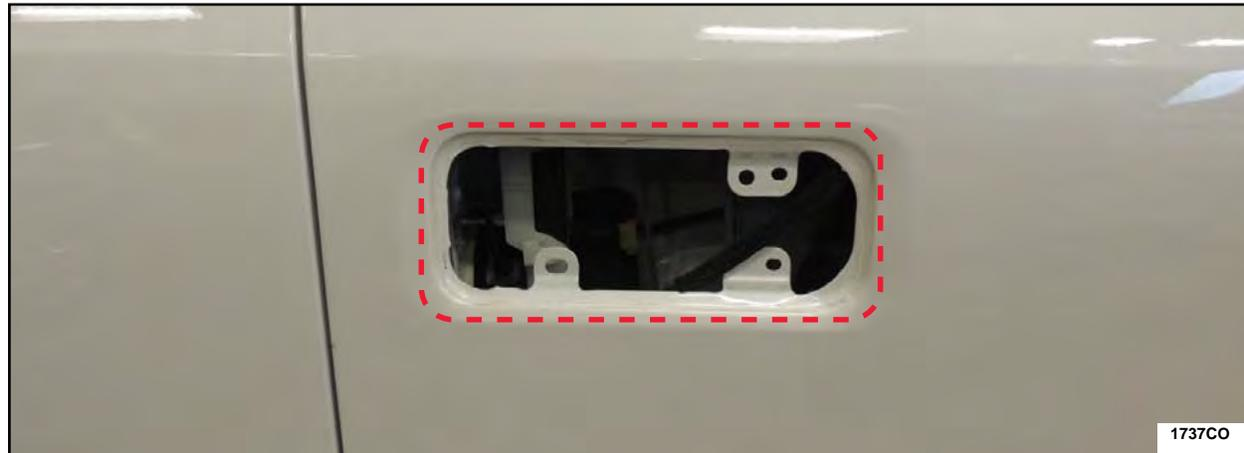

FIGURE 44
17. Using a clean shop cloth and isopropyl alcohol clean inside the dotted lines on the mating surface area of the front exterior door handle openings. See Figure 44.